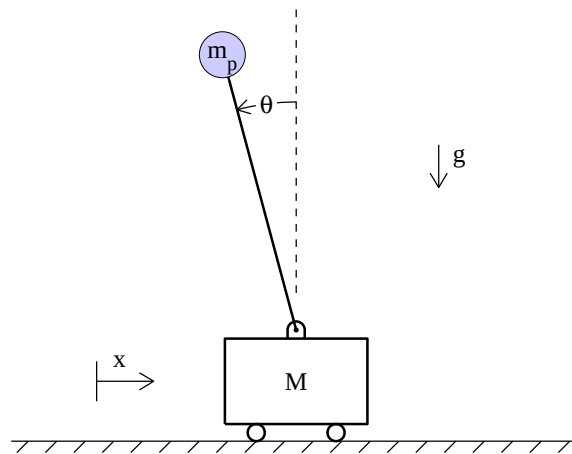

Figure 2: Cart-pole system.
1.2 Nonlinear, underactuated cart-pole system. The main purpose of this problem is to ensure everyone has access to run and a basic ability to use MATLAB. You will be running and modifying code to simulate the dynamics of the classic “cart-pole” system shown in Figure 2.